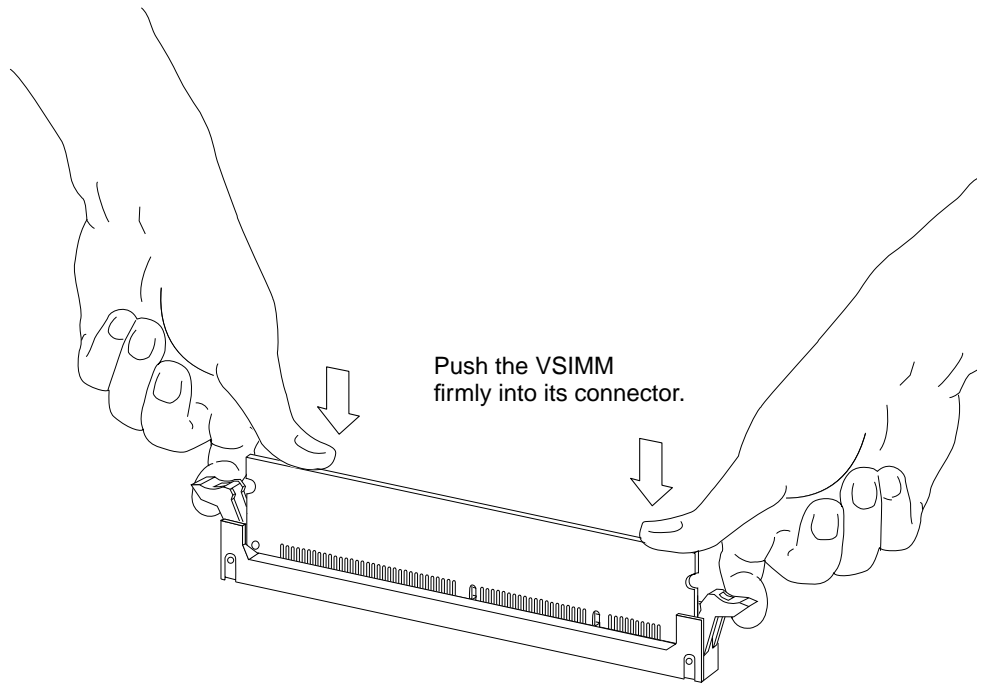

FIGURE 11-26 Installing the VSIMM
- 4. Place your thumbs as shown in FIGURE 11-26 and push the VSIMM firmly into its connector.**